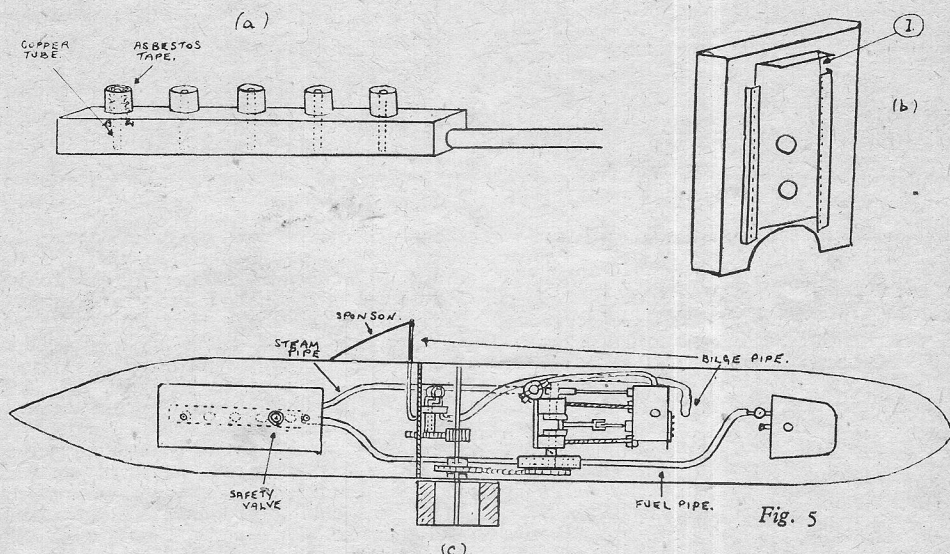

Fig. 5
I therefore tried a scheme of my own which came, so to speak, out of the blue. The lamp was removed and another cut from similar square tube to the same shape; see Fig. 5 (a). Next, five pieces of brass tube were soldered into holes drilled in the top of the spirit-box. Into the tubes I pushed pieces of asbestos tape wound round 3/32-in. external copper tube, the asbestos going part way down and the tube right into the spirit.
Finally, a "flame trap" was fitted, shown in Fig. 5 at (b). Any blowback of the flame we were now getting would have seriously damaged the paintwork, and the sliding cover (1) effectively stops any such danger.
In Fig. 5 I have added, at (c), a rough layout plan which gives a bird's-eye view of the salient features with decks removed.